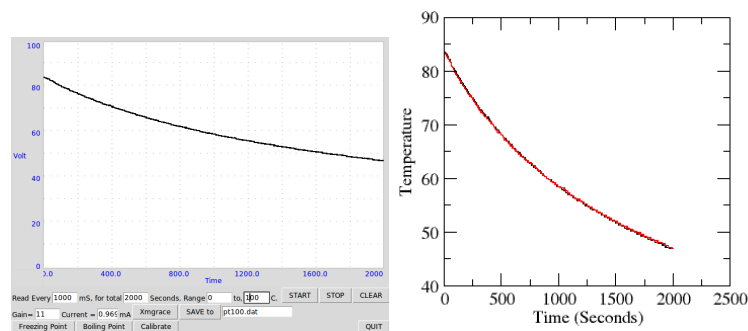

Figure 6.3: Cooling of water. (a) Screen shot of the program. (b) Graphs for clear water and coloured water
**Observation** Cooling curve of water is shown in figure 6.3. The temperature is changing in big steps, this can be improved by using an amplifier between CCS and IN1, as explained in section 4.12.